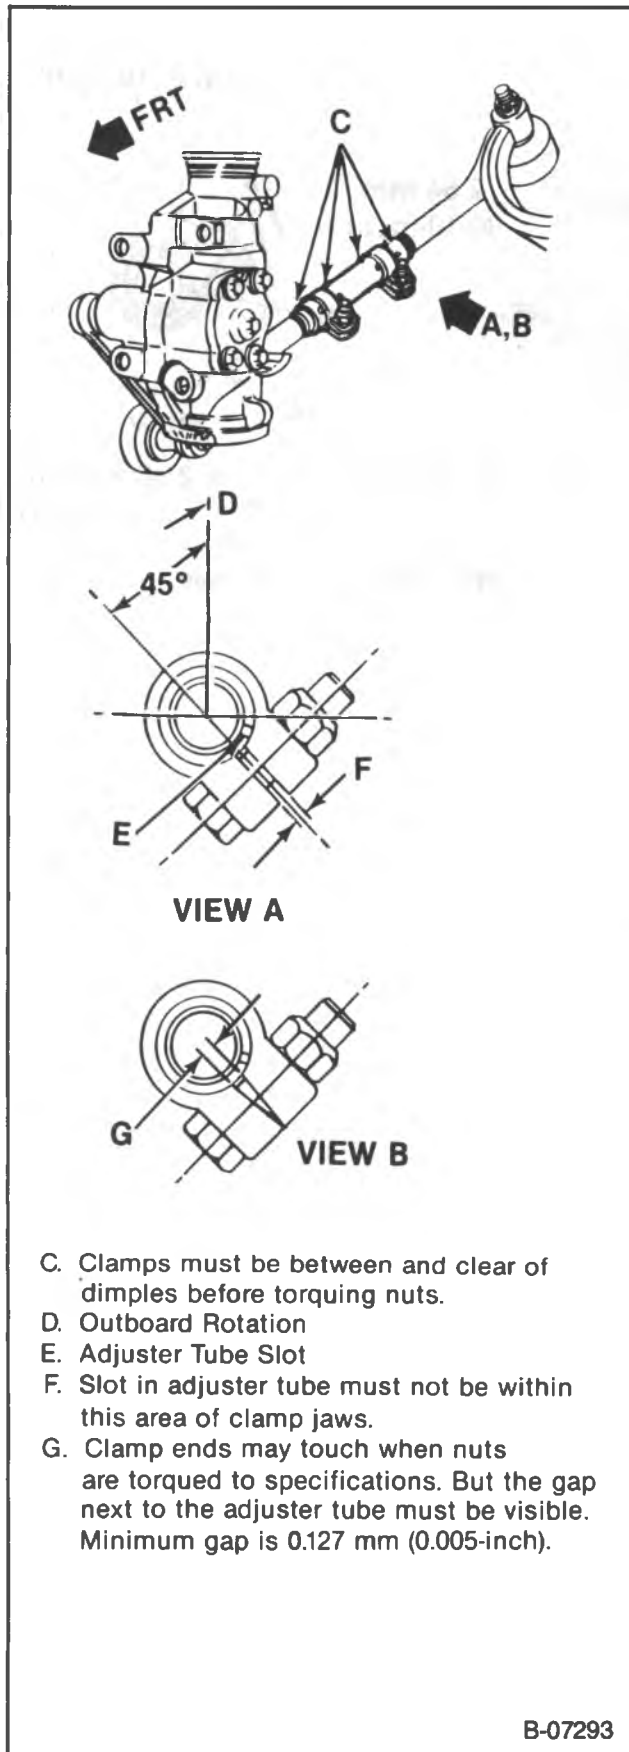

Figure 16 — Connecting Rod Clamp and Adjuster Tube Positioning — P30 FS3
6. Adjuster tube clamp bolts (figures 16 and 17). Before tightening the clamp bolts, be sure the following conditions have been met:
- The clamps must be positioned within the angular travel shown in figures 16 and 17.
- The clamp ends may touch when the nuts are torqued to specification, but the gap adjacent to the adjuster tube must NOT be less than the minimum dimension shown in figures 16 and 17.